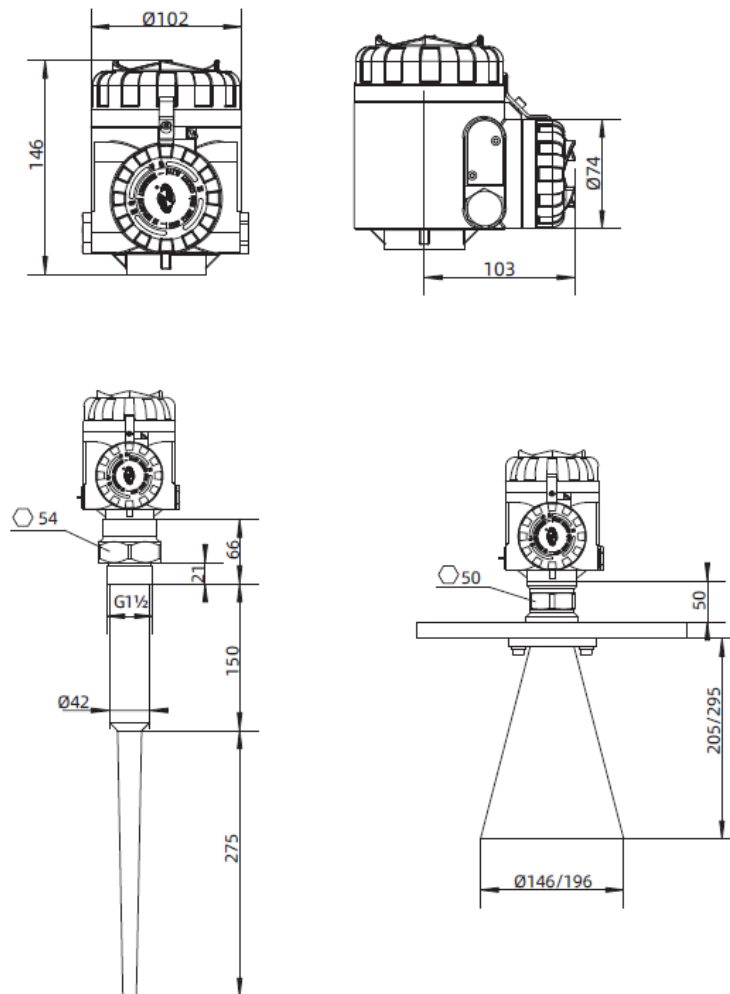

Figure 3 Outline Dimension
| 4. Outline Dimension Diagram-Figure 3 | 8 |
4. Outline Dimension Diagram-Figure 3